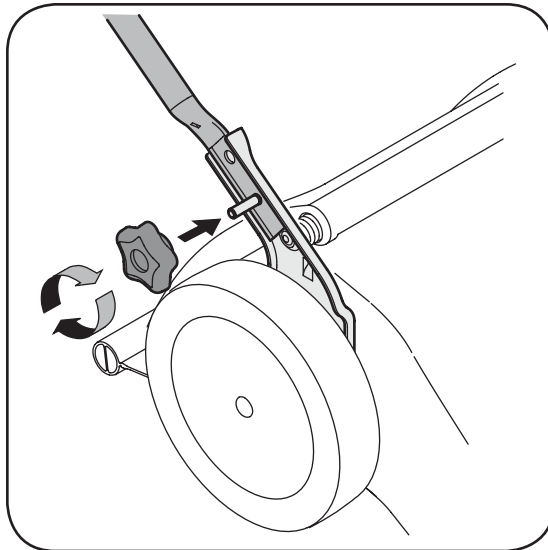

Figure 3-2
2. Tighten star knobs securing lower handle to handle brackets. See Figure 3-2. Make certain the lower handle is seated securely into the handle mounting brackets.